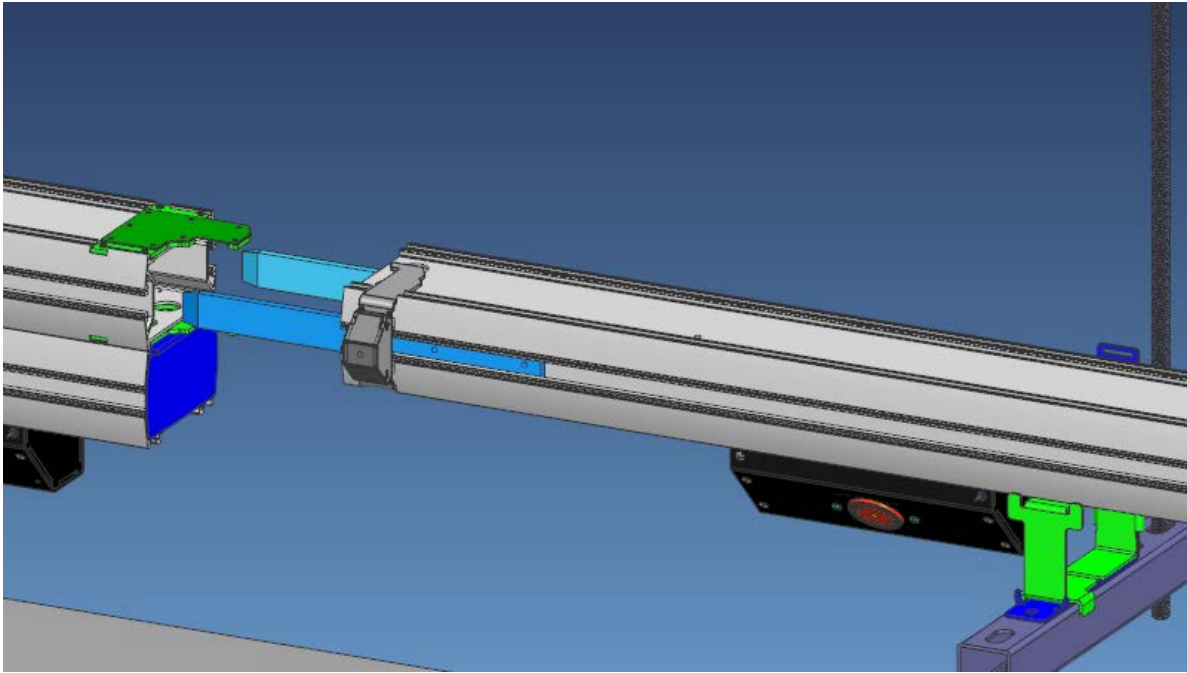

Figure 20 – Locate PDM-NB on mid spacer
2. Set the PDM-NB on top of mid spacer and base bracket so the male end of the PDM-NB is 1" to 2" from the PEM receptacle (Figure 20).